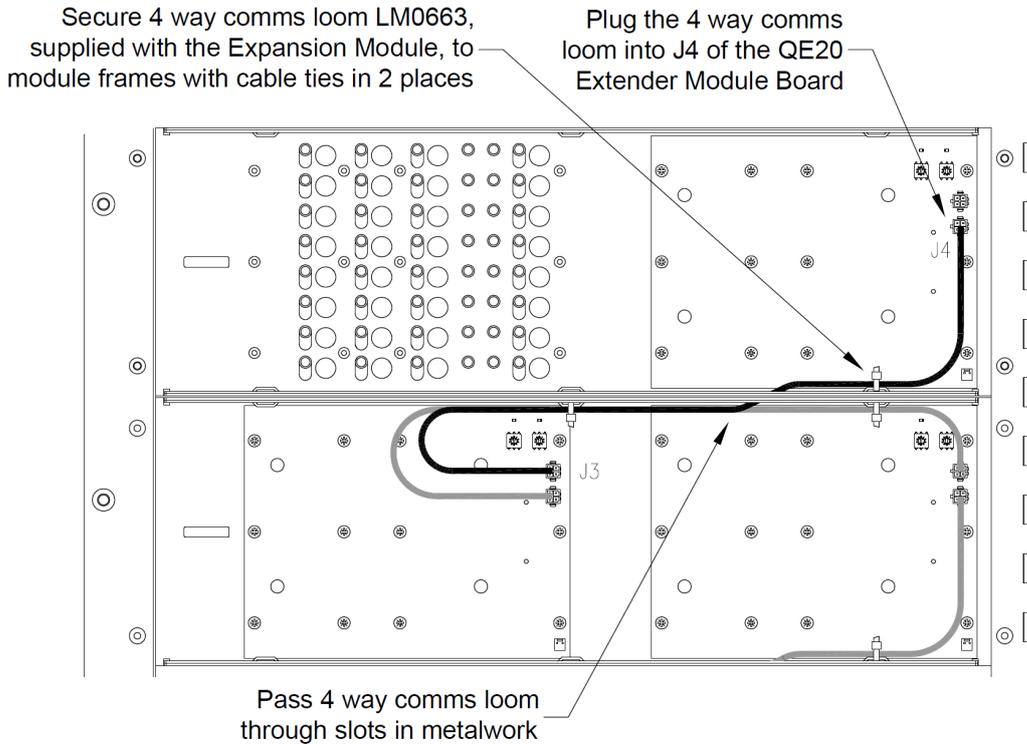
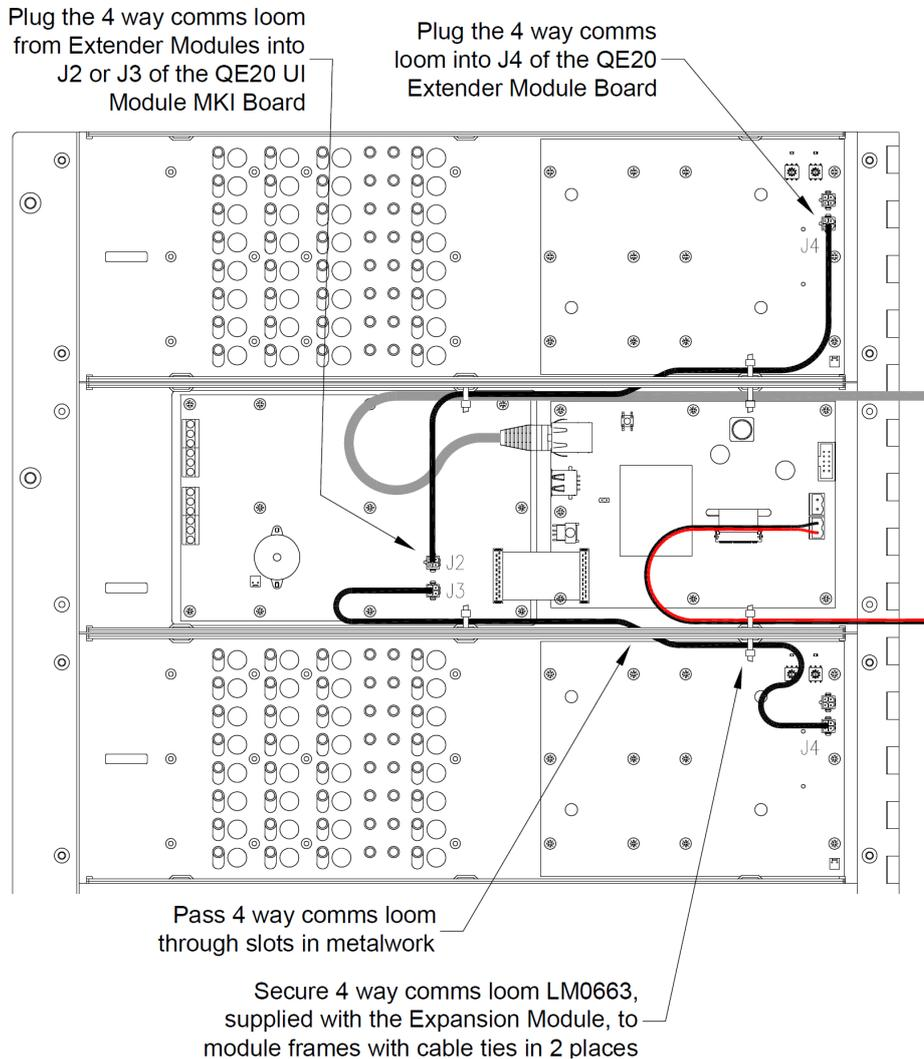

Figure 6 – QE20 Extender User Interface Internal Wiring To Previous Extender
Figure 7 – QE20 Extender User Interface Internal Wiring To Master UI
- Connect the 4-way loom from J4 on the right-hand side PCB (viewed from the rear of the inner door) of the new module to J3 on the left-hand PCB of the previous Extender Module (see Figure 6) or to J2 or J3 on the MKI PCB on the Master User Interface (see Figure 7). Run the cable through the slots in the top or bottom folds of each module and secure in place using the cable ties. If the cable needs to run from one cabinet to another then a much longer 4-way loom will be needed. Possible part numbers are:
Figures 6 and 7 show the wiring to the previous Extender or to the Master User Interface. Note there is a loom from J3 of the right-hand side PCB to J4 on the left hand side PCB on the FP2011 8 Zone / 8 WIP Extender Module, and on the FP2012 and FP2013 Extenders if the 8 Zone / 8 WIP Expansion Board is fitted. For the FP2012 and FP2013 Extender modules if the 8 Zone / 8 WIP Expansion Board is being fitted (to provide 16 zones / WIPs) then follow the instructions provided with the board (LT0715).